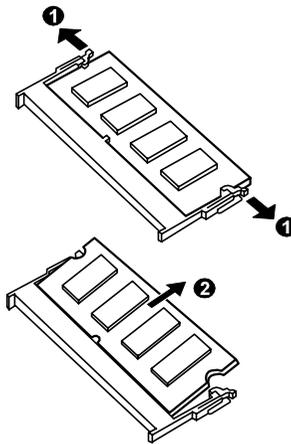

Figure 2-3 Remove the SO-DIMM
4. Pull the retaining clips outwards (❶) and remove the SO-DIMM (❷). (See Figure 2-3)